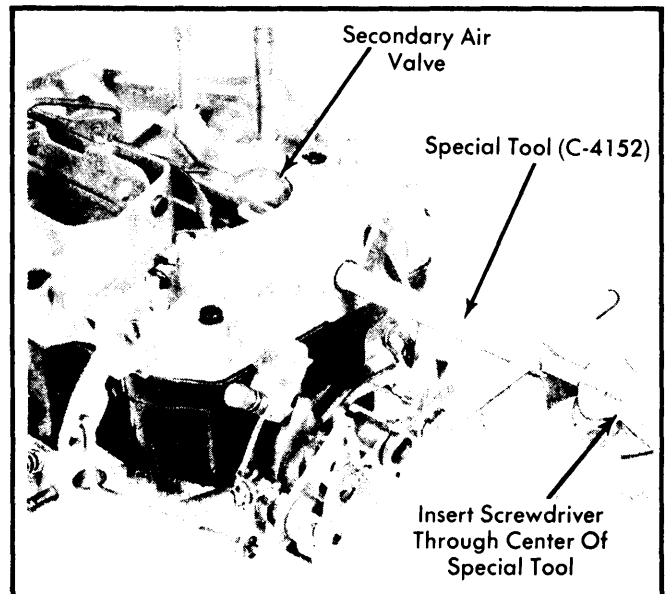

Fig. 5 Adjusting Secondary Air Valve Spring Tension
1) Loosen air valve lock plug. Turn air valve adjustment plug clockwise. This allows air valve to move to wide open position. See Fig. 5.